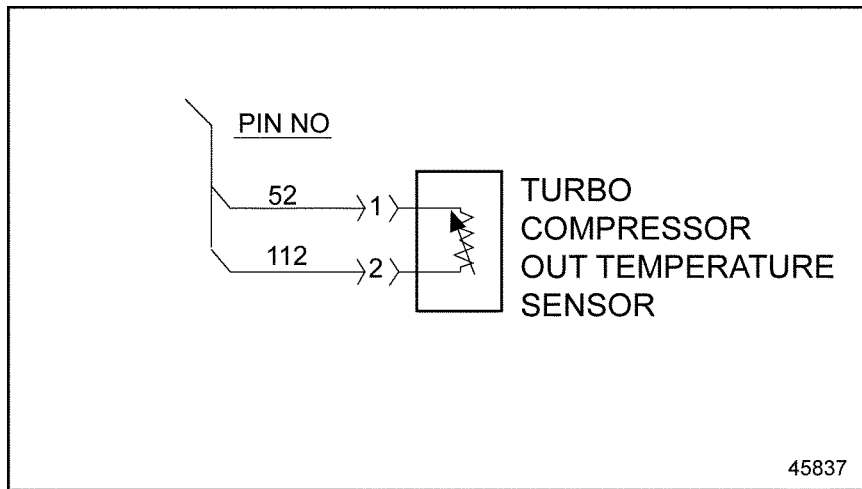

Figure 91-1 Turbo Compressor Outlet Temperature Sensor
- [a] If the voltage is between 2.75 and 3.25 volts, repair the open circuit between pin 1 of the TCO Sensor harness connector and pin 52 of the 120-pin MCM connector. See Figure 91-1. Refer to section 91.1.1.1.